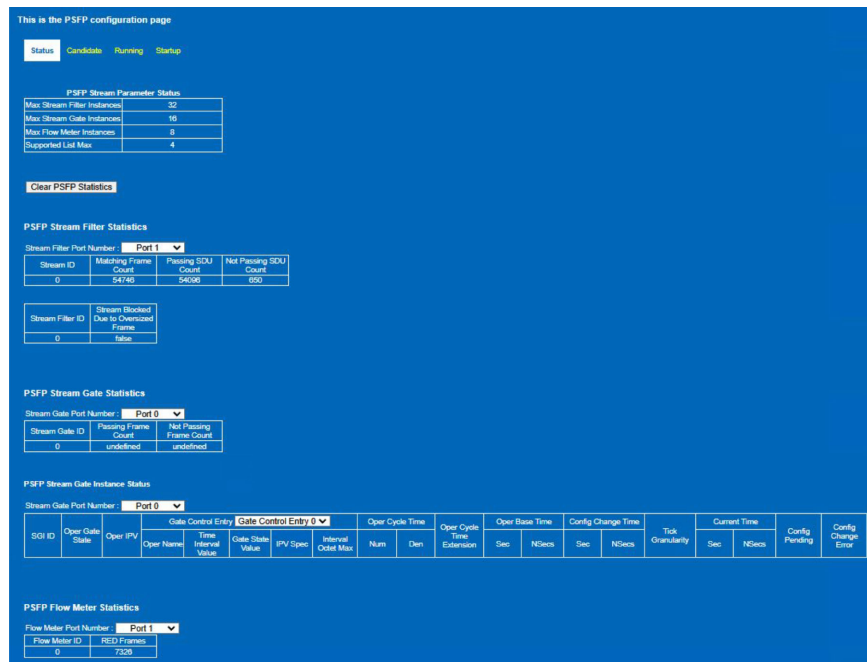

Figure 156. PSFP Status View
The **Status** page (see Figure 156) shows statistics for the PSFP functionality. For the stream filter, there are a number of statistics captured and available to read for a number of parameters. PSFP statistics have an associated errata as shown in the **Silicon Anomaly** topic included in the ADIN6310 data sheet.
- ▶ A count of frames that passed the maximum SDU size filter (see the **Passing SDU Count** column in Figure 156).
- ▶ A count of frames that did not pass the maximum SDU size filter (see the **Not Passing SDU Count** column in Figure 156).
- ▶ Whether the stream is blocked because of oversized frame (see the **Stream Blocked Due to Oversized Frame** column in Figure 156).
- ▶ A count of frames that were discarded as a result of the operation of the flow meter (see the PSFP Flow Meter Statistics section in Figure 156).